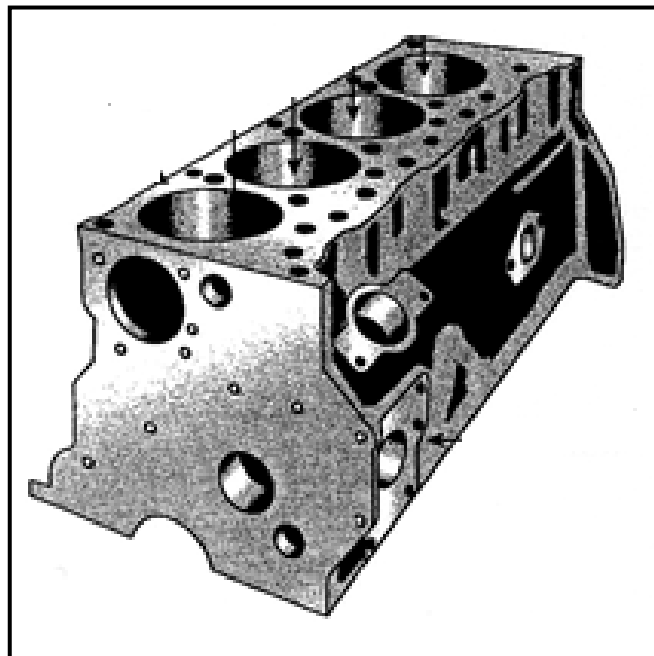

FIGURE 14.1
14.1 Identify the engine component shown in FIGURE 14.1 below.